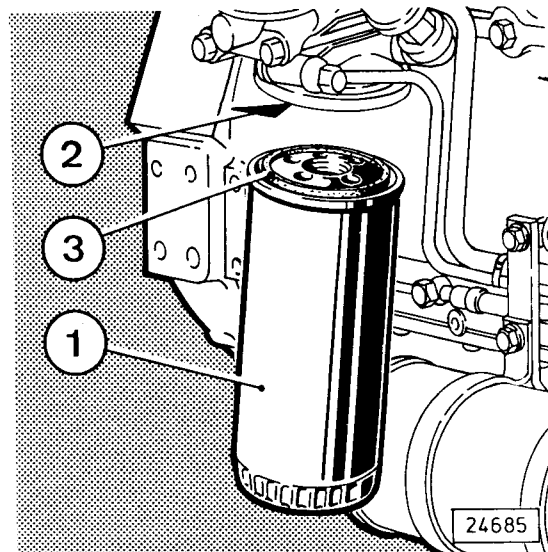

Fig. 50
- ▶ Release cartridge 1 (Fig. 50) by wrench and screw off by hand.